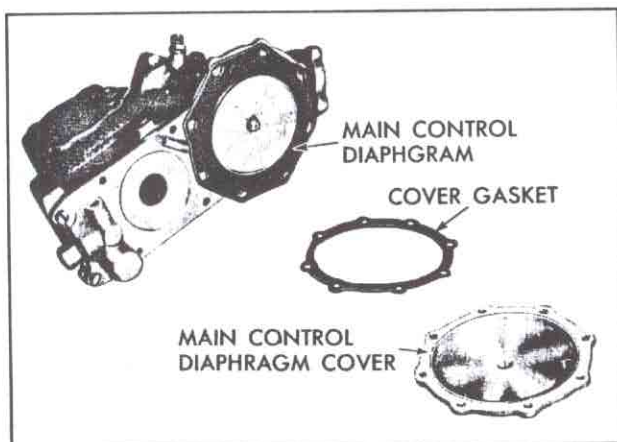

Fig. 152—Main Control Diaphragm Gasket and Cover
12. Position a new main control diaphragm cover gasket (fig. 152) on main control diaphragm cover, making sure that the holes in diaphragm and gasket align with attaching holes in fuel meter. Then position main control diaphragm cover and secure with eight screws and lockwashers tightened evenly in a criss-cross pattern.